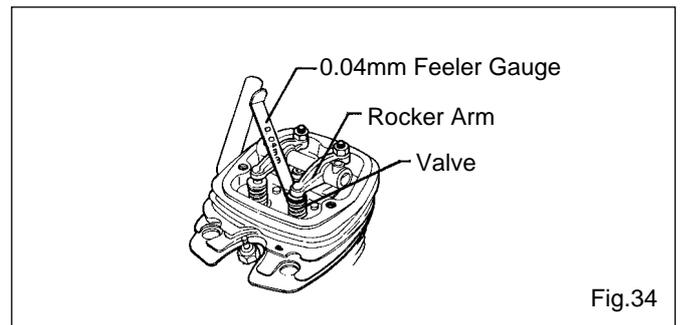

Fig.34
4. The standard valve clearance, on both inlet and exhaust valves, is between 0.04mm and 0.1mm(0.0015-0.004 inch), measured between valve stem and rocker arm. Use the 0.04mm and 0.1mm feeler gauges to check clearances. (See Fig.34.)